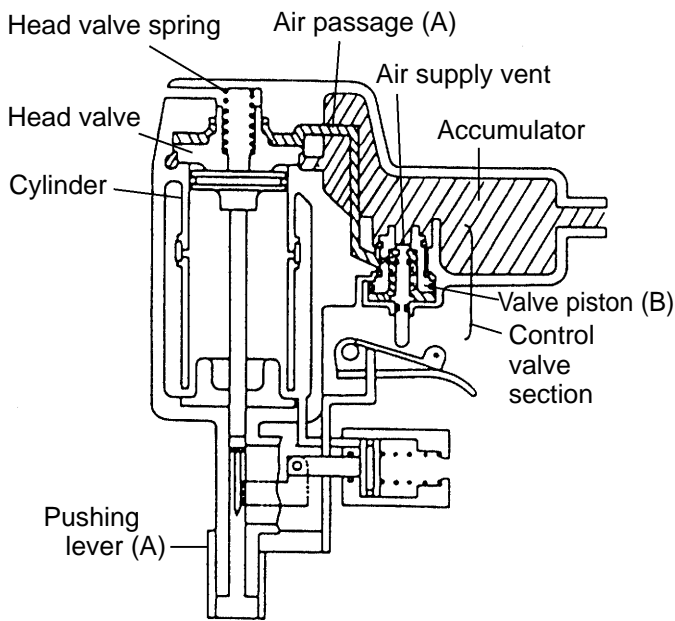

Fig. 6 Prior to nailing
(1) Prior to nailing (see Fig. 6)